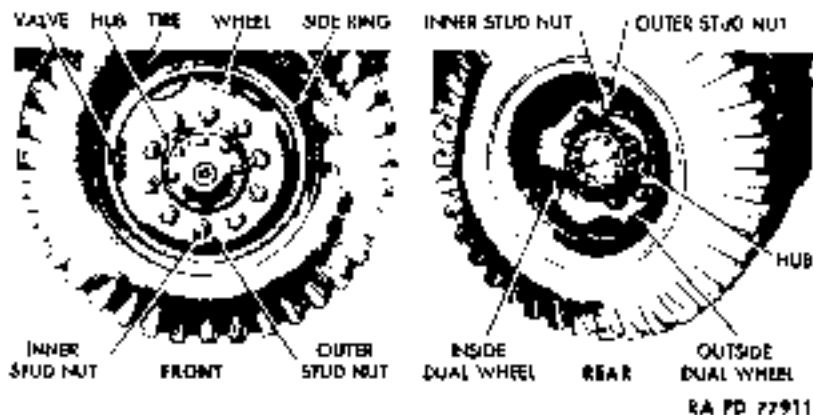

Figure 80 - Front and Rear Wheels
**b. Removal (fig. 80).** Set propeller shaft brake and block wheels to prevent vehicle from moving. If wheel is mounted singly, loosen the 10 inner and outer stud cap nuts which secure wheel to hub assembly. Using a suitable lifting device, lift wheel clear of floor, and remove the 10 inner and outer stud cap nuts. If two wheels are mounted dually, remove the outer hex head stud cap nuts first, and remove outer wheel; then remove 10 inner stud cap nuts and remove inner wheel.
**c. Installation (fig. 80).** Position wheel on hub assembly. If wheel is to be mounted alone, install the 10 inner and outer stud cap nuts. If wheels are to be mounted dually, install the 10 inner stud cap nuts, then mount second wheel and install the 10 outer stud cap nuts. Tighten nuts in opposite positions alternately to ensure proper alignment of wheel and hub. Lower wheel to floor, release brake, and remove blocks from wheels.
c. **Removal** (fig. 80). Remove wheel (par. 133). Lay tire flat on floor with valve pointing up, and remove valve core to release air from tire. Remove side ring from wheel as follows: Insert tire iron in groove at end of ring, and pound iron all the way around between ring and wheel. Remove ring, and force tire iron between tire casing and wheel. Pound iron all the way around. **CAUTION: Be careful not to damage valve. Push valve back through opening, remove tire and tube from wheel, and carefully pull flap and tube from tire.**
d. **Installation** (fig. 80). Install tube and flap in tire casing, and install valve core. Partially inflate tube, and check to see that tube is not twisted or buckled and that flap entirely covers exposed side of tube. Position tire on wheel, pull valve through opening, and install side ring. Check valve to see that it does not touch wheel. Inflate tire to proper pressure (subpar. a (2), above). Mount wheel on hub assembly (par. 133).